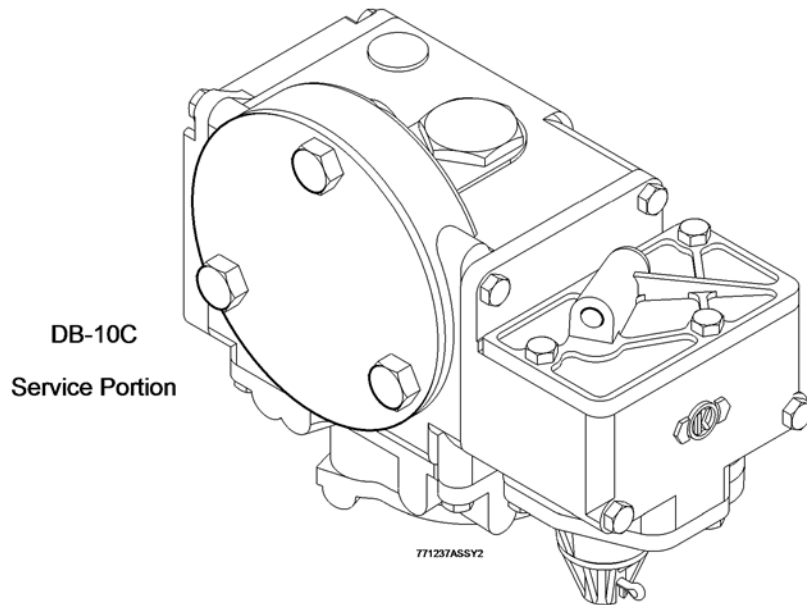

Figure 10-2 DB-10C Service Portion with Shipping Parts (Installed)
1. When the Service portion is not attached to the pipe bracket, a special shipping cover and gasket must be fitted to the valve portion for protection against dirt and damage (see Fig. 10-2 and 10-3).